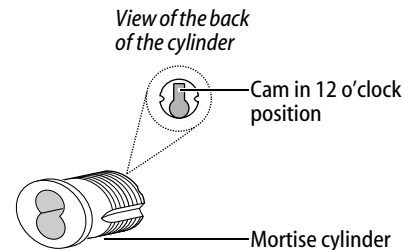

Figure 21 Mortise cylinder components
- 2 Rotate the cylinder cam to the 12 o'clock position, as shown in Figure 21.